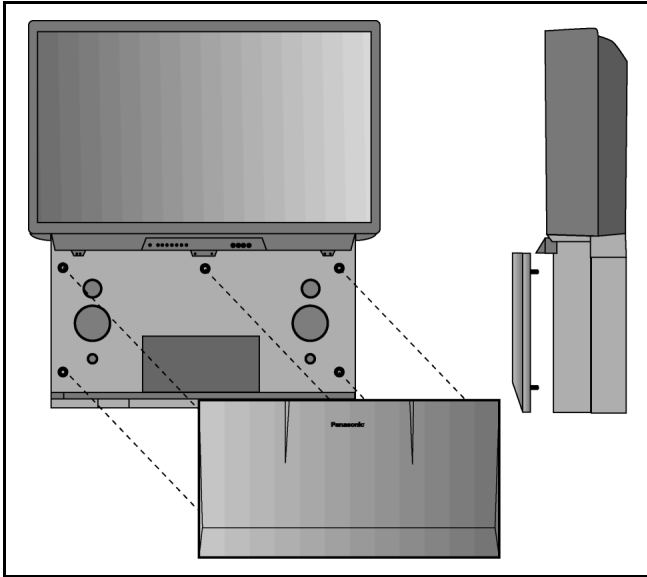

Figure 7. Speaker Grille Removal.
Speaker Grille Removal (Fig. 7)
1. Remove the Speaker Grille. See Fig. 7.
2. Each speaker is secured to the cabinet with (4) screws.